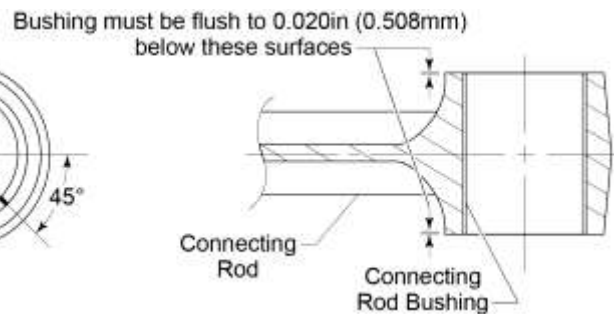

Figure 38
- G. Examine the bushing after installation to make sure the bushing is flush to 0.020 in. (0.508 mm) below the connecting rod surface (Figure 38) on both sides of the connecting rod.